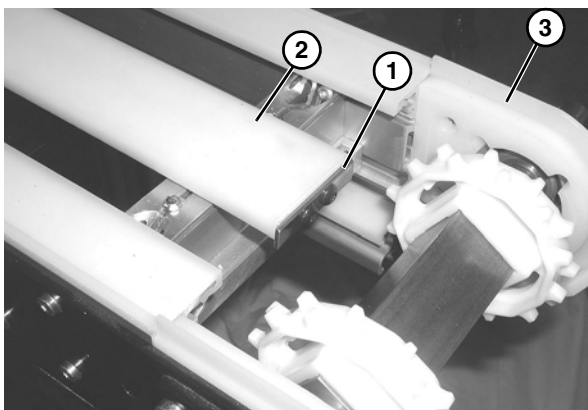

Figure 7
*The stop plate (**Figure 7, item 1**) on the center wear strip (**Figure 7, item 2**) faces the drive end (**Figure 7, item 3**) of the conveyor.*